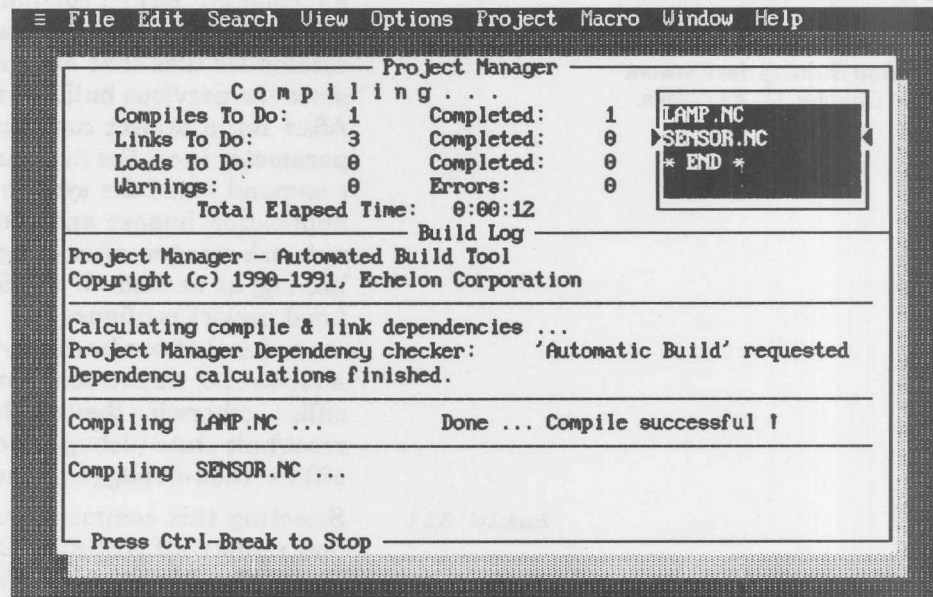

Figure 7-1. Project Manager Window
When you select a build command, the Project Manager window opens (see figure 7-1).
- 5 Select the Compile command button. The Project Manager window (see figure 7-1, earlier) opens and displays the compilation information for the file.